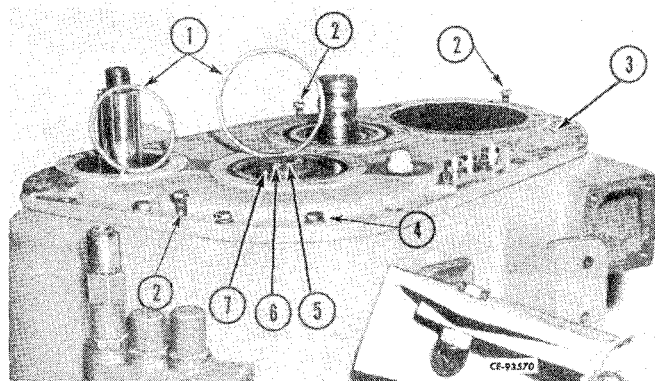

Figure 4-31
Remove the snap rings (1, Fig. 4-31) from the bearings on the input and countershaft. Remove the cover cap screws and lock washers (4). Install 3 of the cap screws (2) in the jack screw holes provided in the cover (3). Remove the cover and cover gasket.